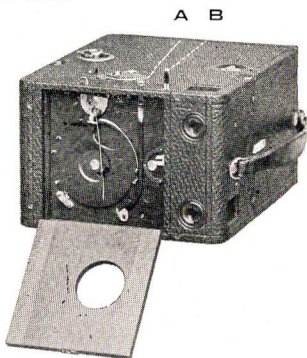

Fig. 2.
firm support like a table or tripod, (Fig. 1) and pull out the time slide (A) near lever, as shown in Figure 2.
Pull out the slide B. (Fig. 2) so that either the second or third diaphragm stop will be before the lens.